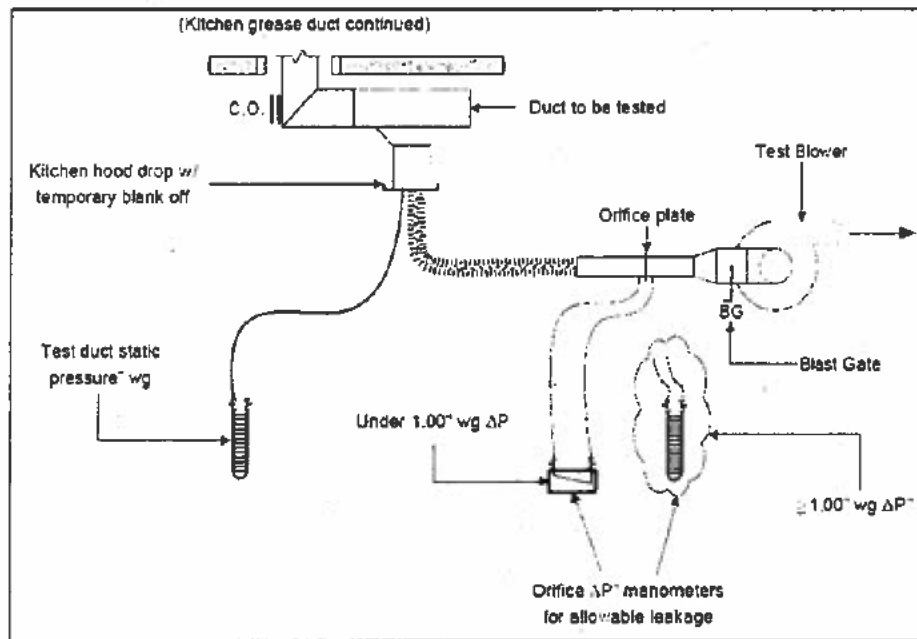

Figure 1
6. See Figure 1 for illustration of the test apparatus configuration below.